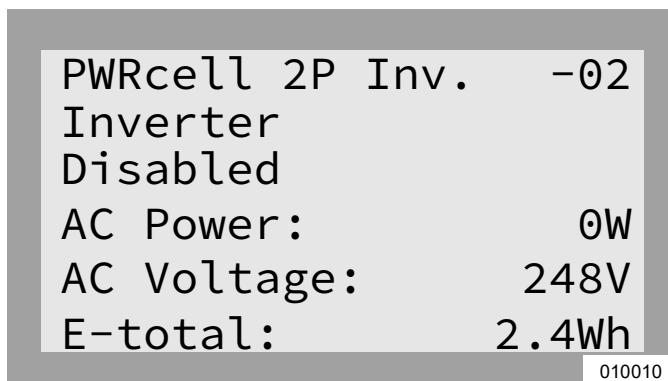

Figure 6-7. Enabling Inverter (1 of 4)
1. See Figure 6-7. Use the right arrow key to scroll to the inverter device page.